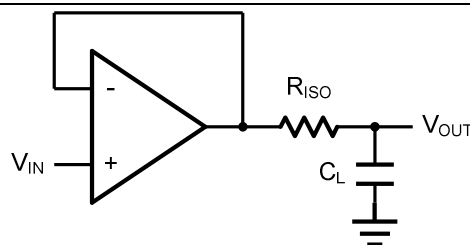
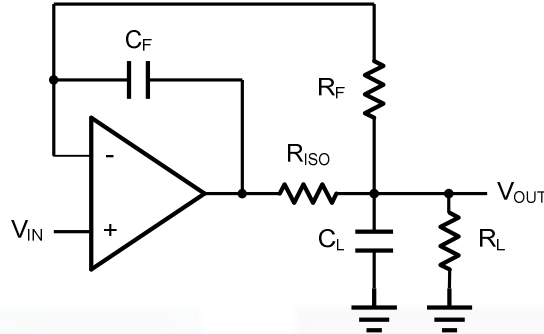

Figure 2. Indirectly Driving a Capacitive Load Using Isolation Resistor
Figure 3. Indirectly Driving a Capacitive Load with DC Accuracy
The GS855x family is optimized for bandwidth and speed, not for driving capacitive loads. Output capacitance will create a pole in the amplifier's feedback path, leading to excessive peaking and potential oscillation. If dealing with load capacitance is a requirement of the application, the two strategies to consider are (1) using a small resistor in series with the amplifier's output and the load capacitance and (2) reducing the bandwidth of the amplifier's feedback loop by increasing the overall noise gain. Figure 2. shows a unity gain follower using the series resistor strategy. The resistor isolates the output from the capacitance and, more importantly, creates a zero in the feedback path that compensates for the pole created by the output capacitance.
The circuit in Figure 3 is an improvement to the one in Figure 2. R_F provides the DC accuracy by feed-forward the V_{IN} to R_L . C_F